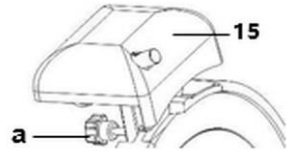

Fig. 9
2. Loosen the fixing screw (a) of the sharpener (15) on the back side of the appliance (Fig. 9).
3. Remove the sharpener (15) and rotate it by 180°.
4. Put the sharpener (15) into the special guide rail and tighten the fixing screw (a).
6. Connect the appliance to a grounded single socket and switch it on with the white START button (B).
1. Remove the sharpener from the appliance (Fig. 9).
1. Remove the complete sharpener assembly from appliance (fig. 9).